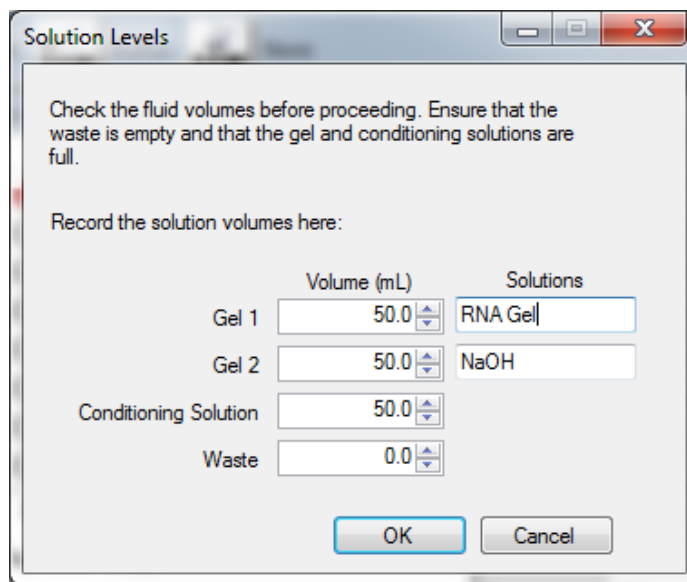

Figure 1. **Solution Levels** menu
- When adding RNA Separation Gel to the instrument, update the solution levels in the *Fragment Analyzer*™ instrument control software. From the Main Menu, select **Utilities — Solution Levels**. A menu will be displayed to enter in the updated fluid levels (Figure 1).
5. When adding fresh 1X capillary Conditioning Solution to the instrument, update the solution levels in the *Fragment Analyzer*™ instrument control software. From the Main Menu, select **Utilities — Solution Levels**. A menu will be displayed to enter in the updated fluid levels (Figure 1).